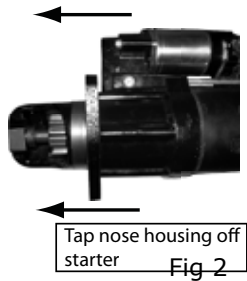
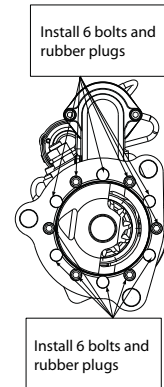

Fig 2
Fig 5
Step 2: Remove nose by tapping mounting flange with a soft face hammer. (Fig 2)
Step 4: Apply Blue 242 Loctite to nose housing mounting bolts removed in step one. Refer to Fig 2 for proper nose housing orientation. Insert screws in nose housing. Tighten bolts to 15 lb-ft. Insert rubber plugs into nose housing. (Fig 5)